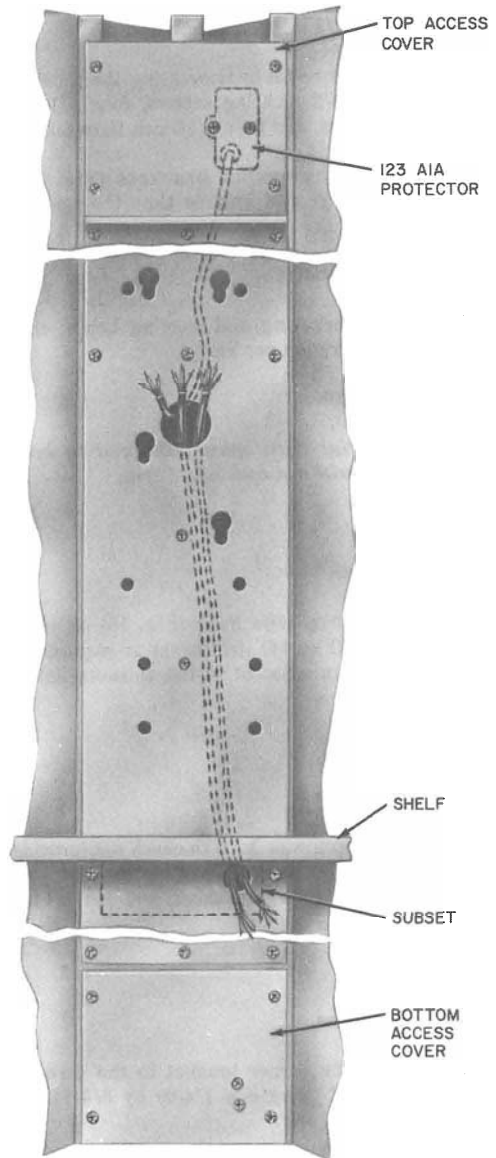

Fig. 17—Station Wiring
3.08 Station connection wires are furnished as shown in Fig. 17.